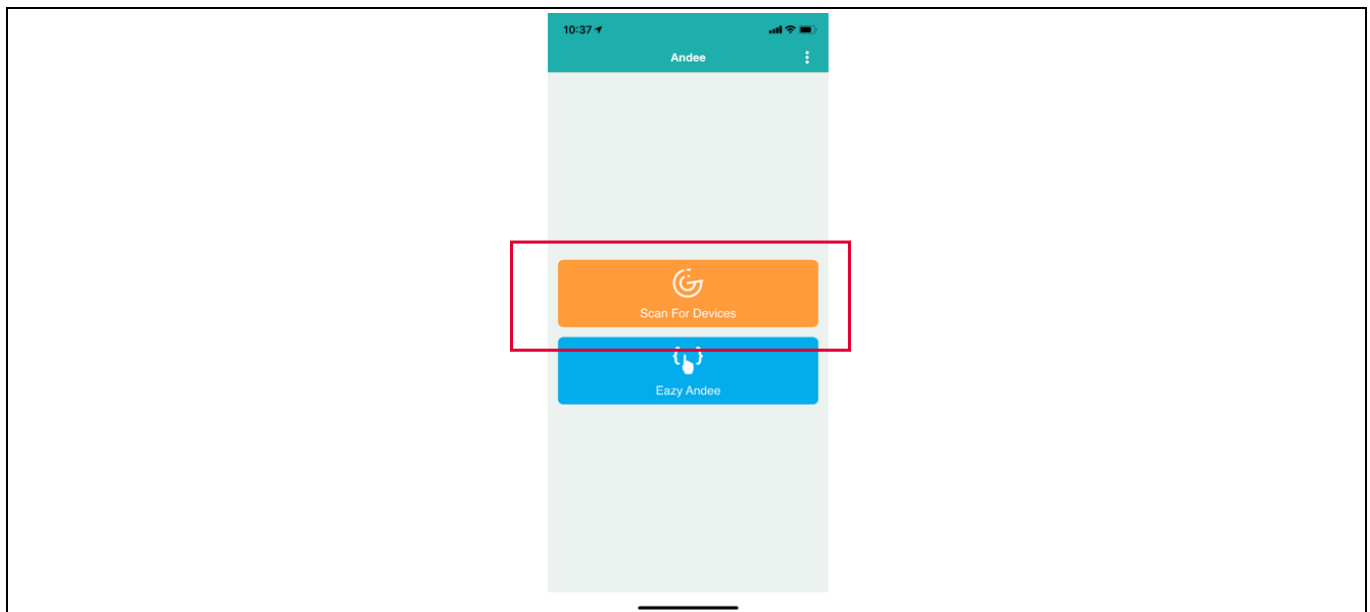

Figure 34 Andee app – scan for devices
9. Launch the Andee app (can be installed for free from the Apple App Store or Google Play Store) on your smart device. In the app, click “Scan for Devices” (Figure 34).